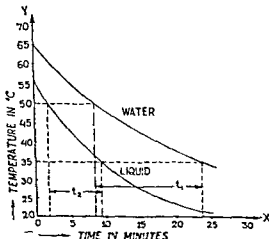

Fig. 8.4
3. Put these calorimeters in their positions inside the cooling apparatus as shown in the figure 8.4. Press a thermometer in the centre of each. Batteries are also provided in